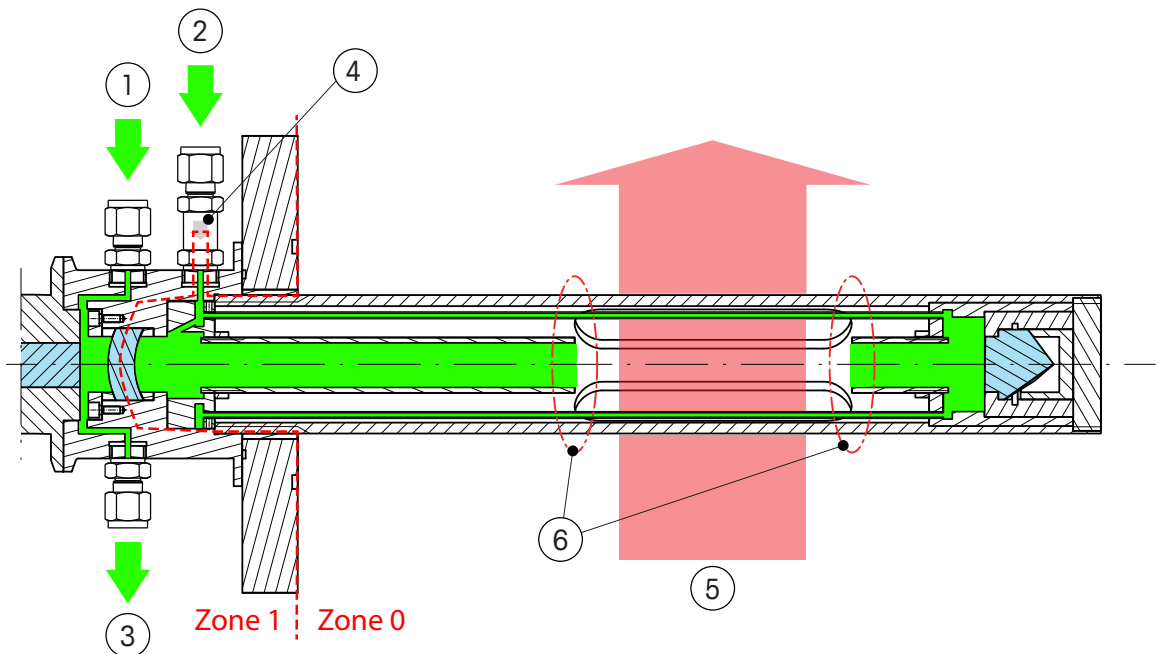
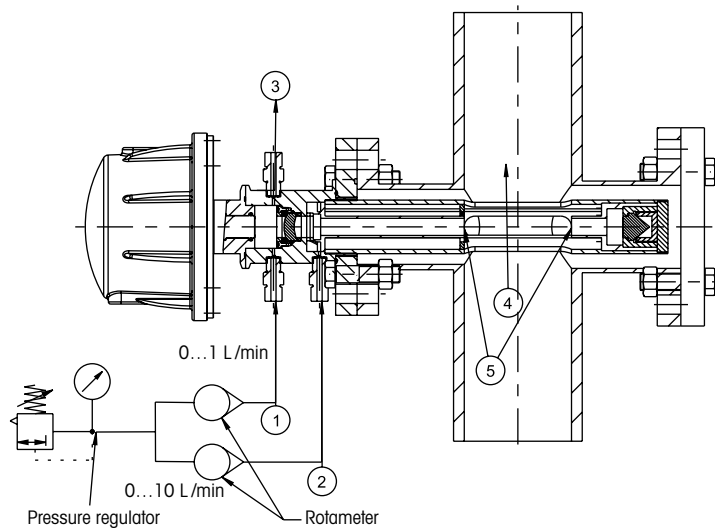

Figure 7 Purging configuration for standard purged probe (SP)
Figure 9 Purge gas rotameter connections for standard purge (SP) probe
Figure 7 on page 37 and Figure 9 on page 38 provides further details on the purge requirements for the standard purge (SP) probe together with the typical configuration of the required external flowmeters (rota meters) used to supply and control the purge gas flow.